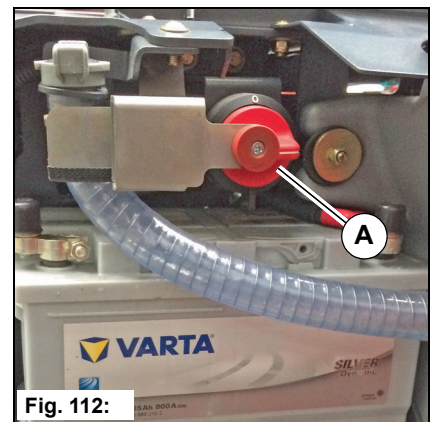

Fig. 112:
3. Turn the battery isolating switch **Fig. 112-A**. The battery is isolated from the vehicle electrical system. Switch the vehicle electrical system back on by rotating clockwise.